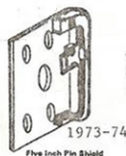

Figure 7
7. On models having a five inch pin shield, remove pin shield and replace with new 5 inch pin shield. (See Figure 7).